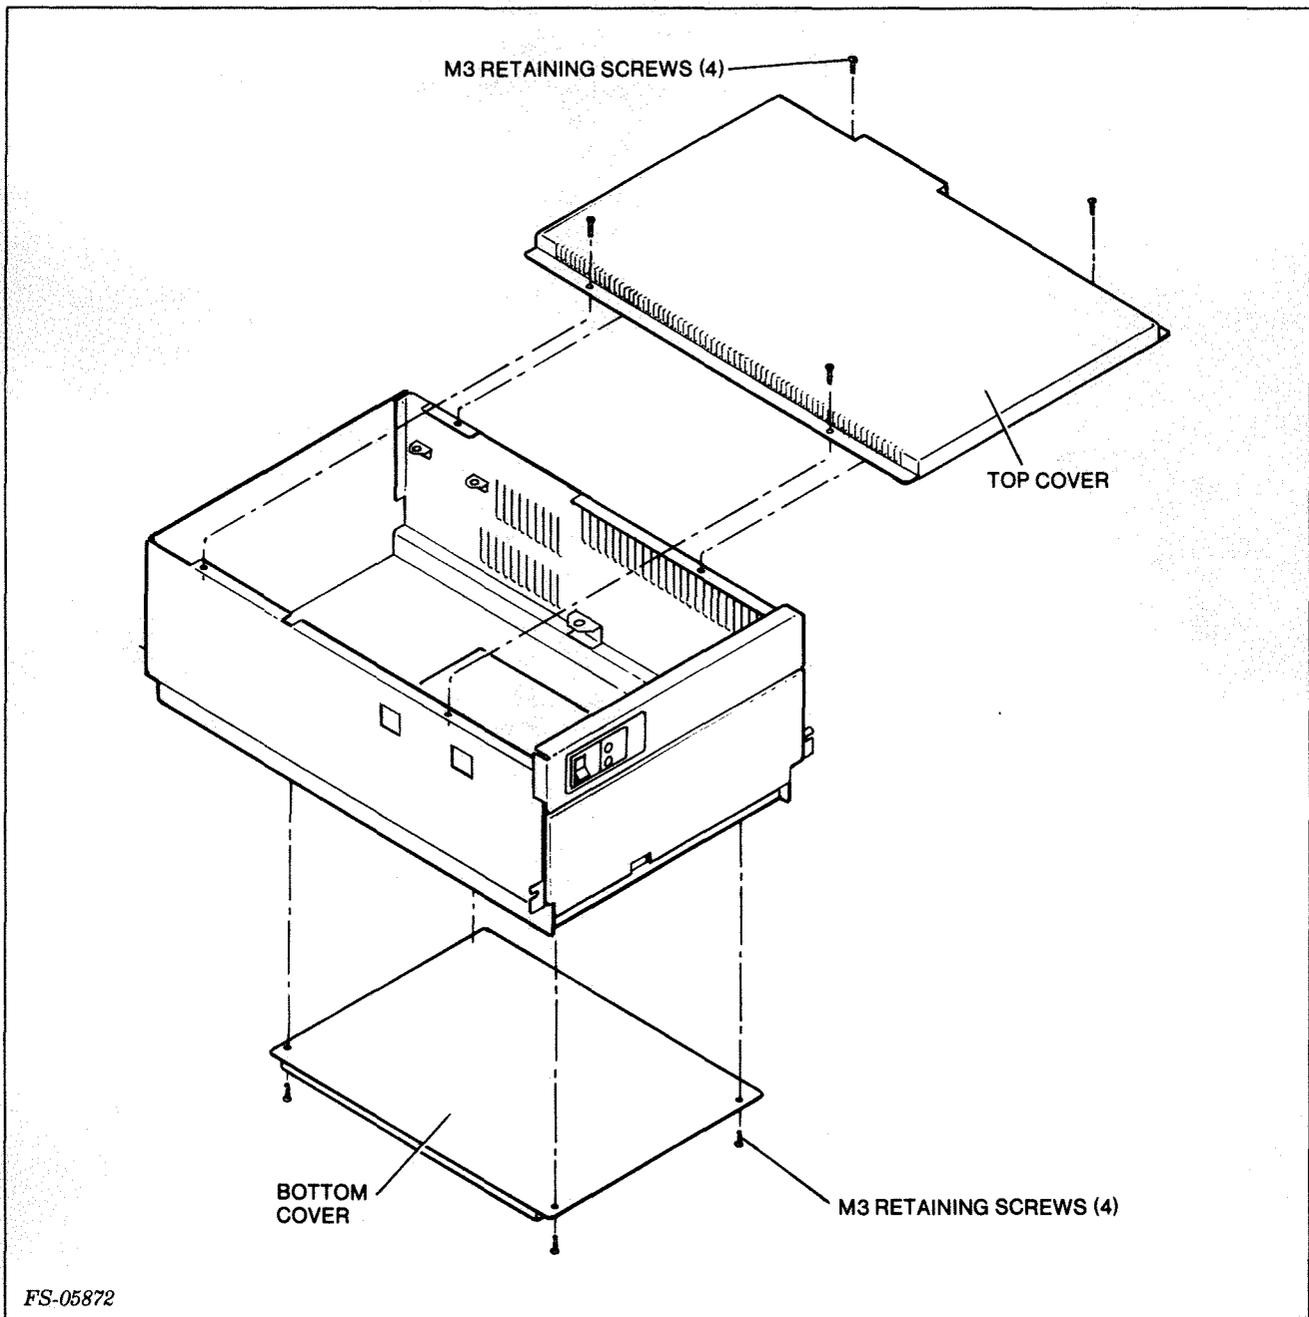

Figure 5-3. Top and Bottom, Cover Removal
4. Remove four M3 housing cover retaining screws (see Figure 5-3).
4. Loosen the four M3 housing cover retaining screws (see Figure 5-3).